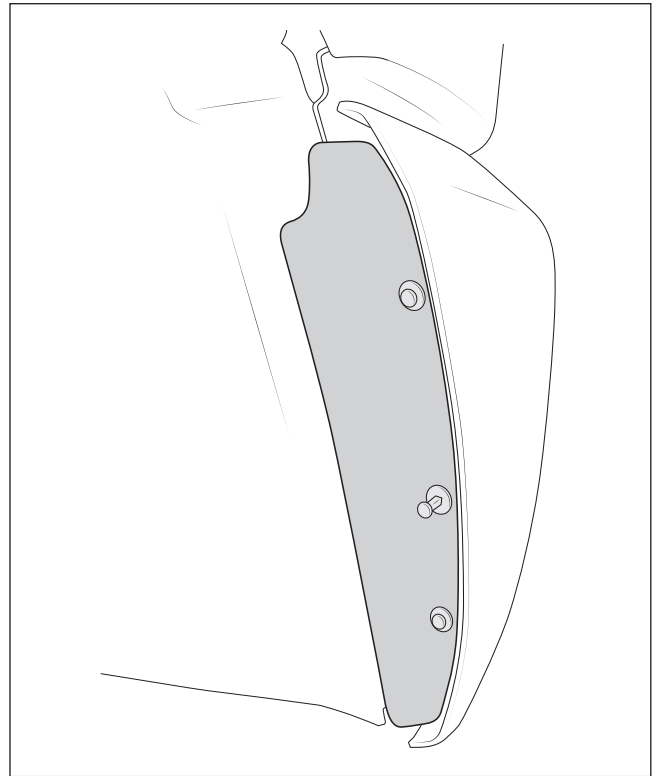

Figure 27
- Install fender liner retainer plates using provided push pins (fig. 27).